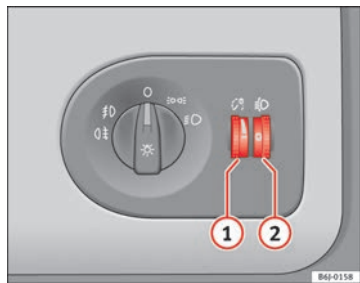

Fig. 55 Dash panel: regulation for instrument and switch illumination and headlight range control
When the headlights are switched on, the brightness of the instruments and switch lighting can be regulated to suit your requirements by turning the thumb wheel → fig. 55 ①.